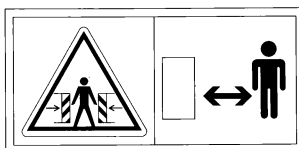

Figure1-8
1.4.3 Don't Enter This Working Area. (Figure 1-8)